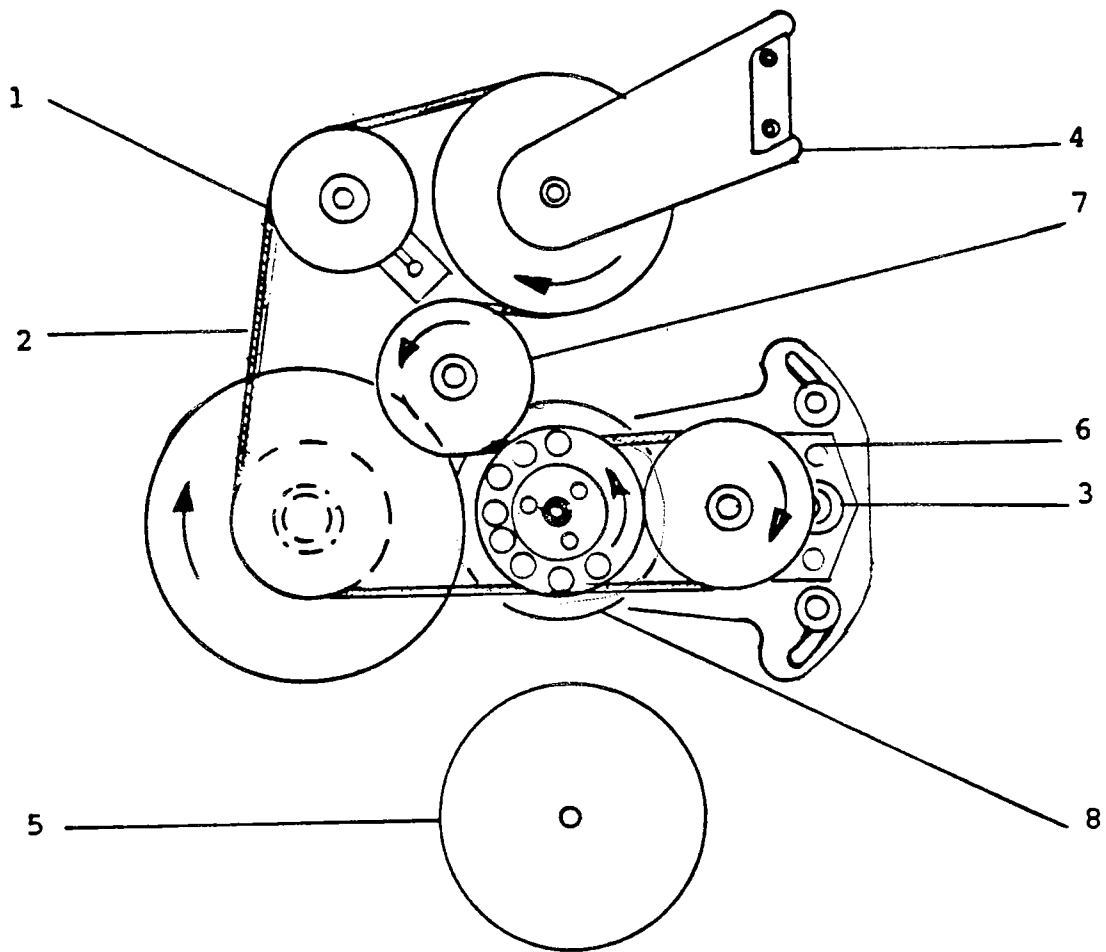

FIGURE 4-1 OUTER TIMING BELT
4-7. Outer Timing Belt. To remove the outer timing belt, refer to Figure 4-1 and proceed as follows:
2. Remove two allen screws and remove bearing and gear assembly (6, Figure 4-1).
3. Remove allen head screw that secures idler pulley (7, Figure 4-1) to main frame, then remove idler pulley.
4. Remove four allen head screws and washers securing ultramittent assembly to main frame, then remove ultramittent assembly (8, Figure 4-1).
2. Remove two allen head cap screws securing outer bearing retainer (4, Figure 4-1) to main frame.